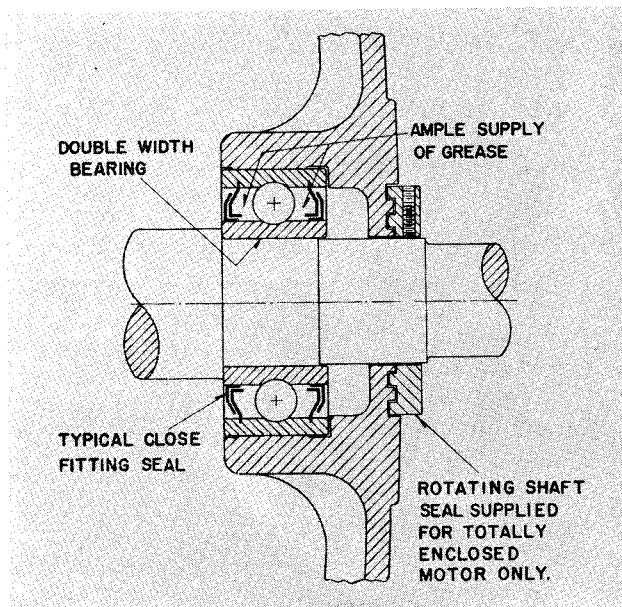

Fig. 2. Sectional View
5.3 Bearings. (See Figure 2). The bearings used in Life-Line motors are packed at the factory with the proper amount of lubricant; no further lubrication is needed for the normal life of the bearings.